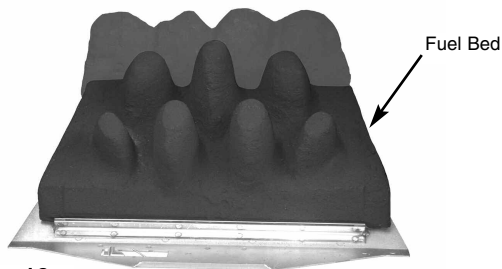

Fig. 16
2. Place the main fuel bed on to the middle section of the metal burner tray. It is important that the front edge of the fuel bed is located behind the burner strip (Fig. 16).